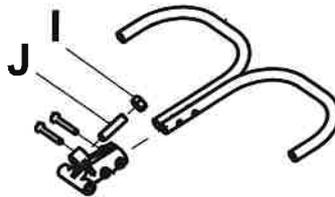

Figure 8 – Loosen the hex nut
4. Using a 1/2" combination wrench, loosen the hex nut (I) on the backrest pivot while using a 5/32" hex wrench to hold the set screw (J) fixed in the pivot (Figure 8).